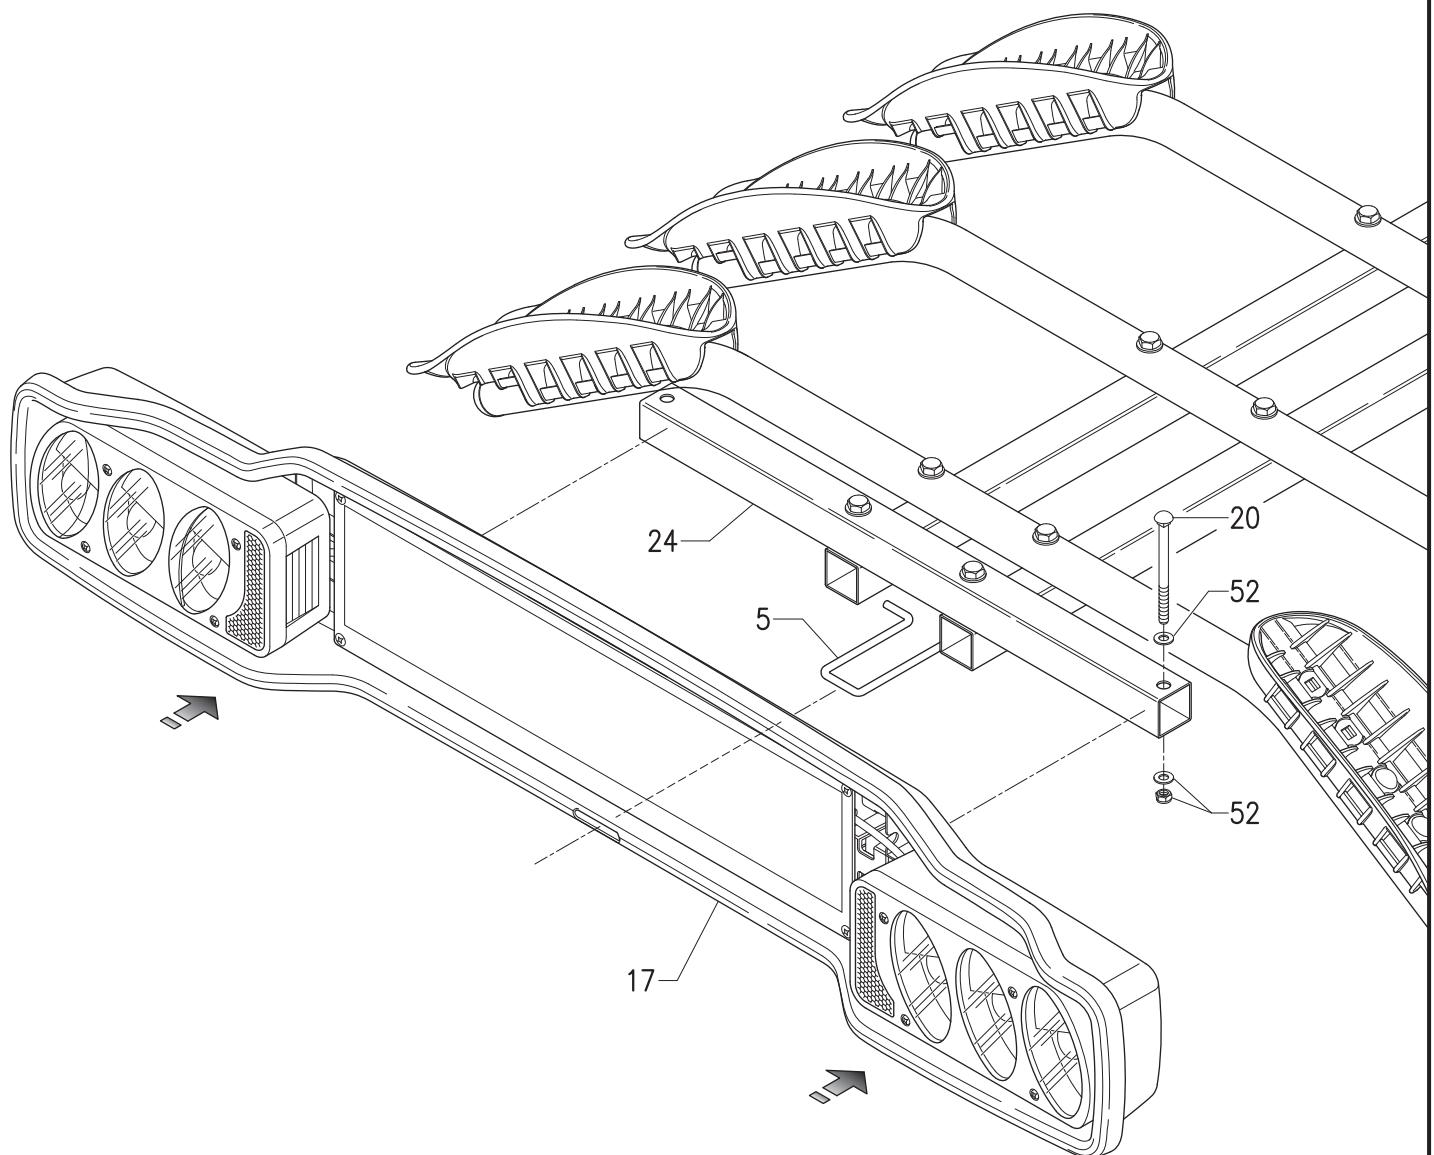

Fig. D1
- Unscrew and remove the knobs **36** and the washers **57** from both sides (Fig. D1);